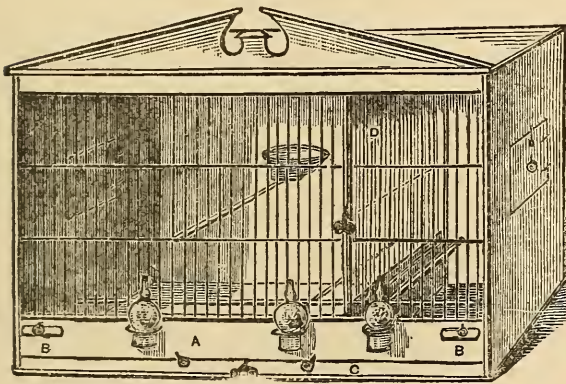

Fig. 2.
I have already said that the wood a cage is made of is a matter of secondary importance. The body may be pine, for instance, and the front parts any kind of ordinary hard wood—mahogany to wit. The cage (Fig. 2) which is now before us is one of the German kind, manufactured by Mr. Abrahams, naturalist,
have already done get firm and dry before doing much more to it. Meanwhile measure and make the piece of hard wood that crosses the cage in front just above the bottom drawer (Fig. 2, A). This should be from two to two and a half inches wide, and an oblong space or opening (B B) is to be left at each end. These are for the little seed-tins to fit in. As soon as you have made this piece of wood (A) and dressed it most neatly, you may place it in position. This must be most carefully done, leaving a full inch of space beneath it for your bottom drawer or false bottom. Nail it from the sides.
You can now proceed to make this false bottom, taking great care that the front part, which is of hard wood (Fig. 2, c), fits the space you left for it exactly, and without a flaw. The mechanism of this false bottom is so simple that instead of describing it or illustrating it, I beg to refer you to your friend Smith's cage. A glance will suffice. But remember not to spare the glue on that either.
Well, a glance at the complete cage (Fig. 2) will show you that there is a wire partition at D dividing the cage into two compartments, a big and a small. This partition, however, does not go right to the bottom of the cage, because it is a sliding one and draws out. It runs at top and bottom in grooves made by three pieces of wood, one of the pieces of the lower groove being deeper than the others,
Now for the front. This is to be made separately, and then slipped in. There is another plan, but I think I give the better of the two. Glance again at Fig. 2. Take a look at friend Smith's cage as well. Now scratch your elbow thoughtfully, gather all your scattered senses together, and all your brains, and proceed to business. There is a top bar and a lower bar, and two strong cross wires; but mark this, please—these cross wires are not continuous all the way, there must be a space left for your wire partition to slip out and in.
Well, you have your wires all ready. Measure the length you want them, and cut them all of a size a little longer than they are actually required. They have to pass right through the upper bar (Fig. 2), and be fastened into the lower (Fig. 2), and as the same space—namely, half an inch—must exist between each wire, before you bore the holes for them you must carefully mark the places on both bars, and this is done either with a pair of compasses, or more surely and securely with the prongs of a two-toed fork. While making or wiring the front, be sure first that the top and bottom bars are exactly the same length, then lay them fair and square on your bench or table, and tack them down with small nails: so shall you do your work firmly and well. Bore the holes very even which you have marked off, then put each wire through separately and snip off with your pliers what is not wanted. The wires, by means of your hand-vice, should previously be made as straight as possible. When you have got all your upright wires in put on your cross pieces. These are simply laid on over the others and whipped in position with a long thread of very fine wire.